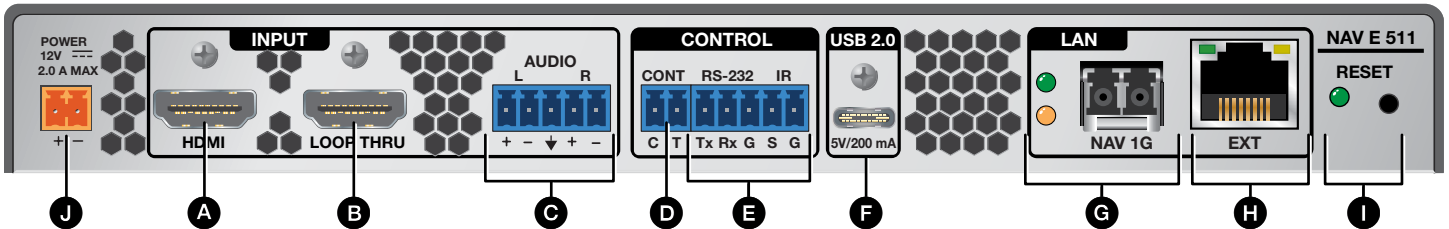
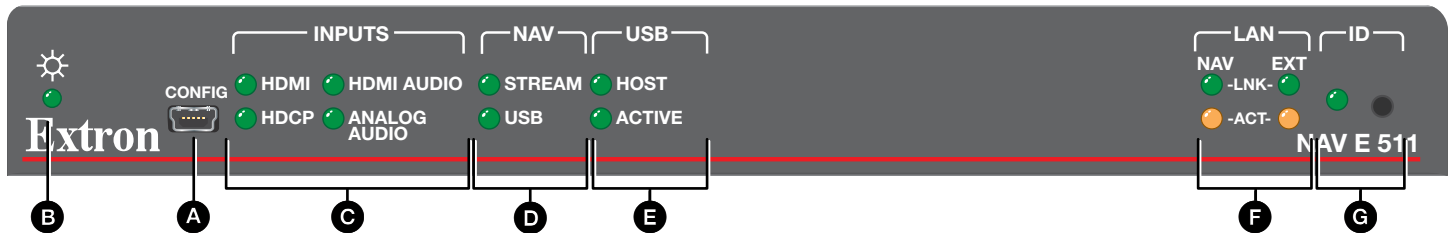

Figure 1. NAV E 511 Rear Panel Features
Figure 2. NAV E 511 Front Panel Features
- G NAV 1G port** (see figure 1 on page 1) — Use a pair of fiber cables to connect to a LAN on which one or more decoders also reside for streaming and control.
E USB LEDs (see figure 2 on page 2 — Indicates the status of the USB stream, as follows:
Connection to the encoder and its embedded web pages can be made via either the front panel Configuration (USB) port (using IP over USB technology) (see figure 2, **A** on page 2) or the rear panel NAV 1G port (see figure 1, **F** on page 1).